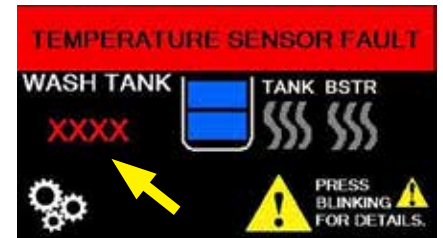

Fig. 13a -Temperature sensor fault screen.
1. If a machine temperature sensor fails, then the "TEMPERATURE SENSOR FAULT" message appears and the Wash Tank temperature displays **XXXX** indicating the location of the fault, (Fig.13a).